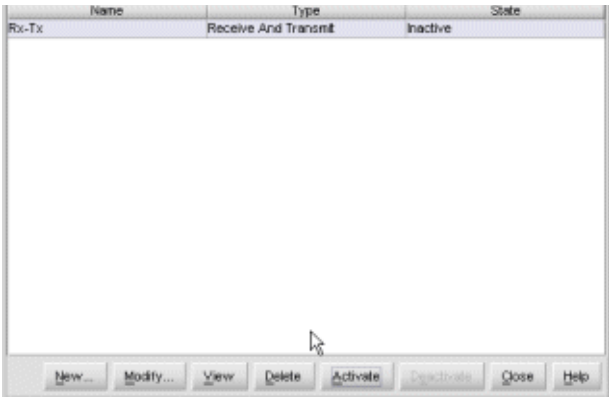

Figure 36: Configure Threshold Alerts dialog box
1. At the **Hardware View** page, choose **Configure > Threshold Alerts**. The Configure Threshold Alerts dialog box displays, as shown in Figure 36.